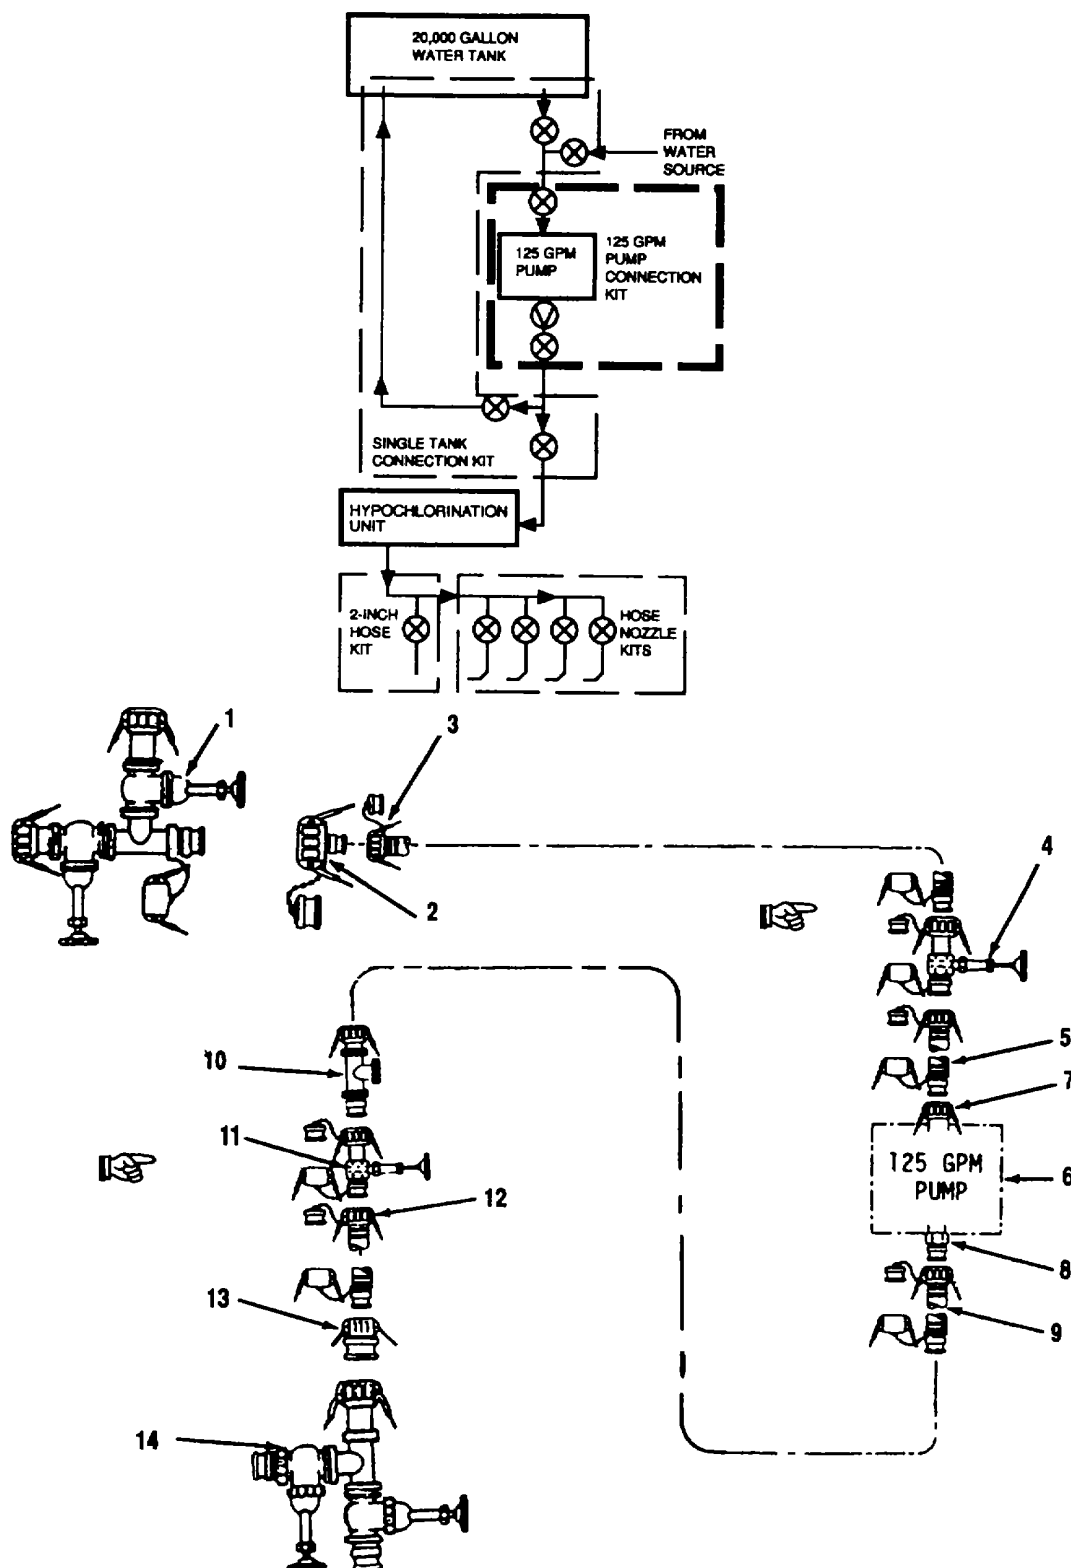

Figure 2-13. 125 GPM Pump Connection Kit Disassembly
- (4) Disconnect reducer (4-inch female x 2-inch male) (4) from tee (3).
- (5) Disconnect tee (3) from 4-inch x 20-foot discharge hose (2).
- (6) Disconnect 4-inch x 20-foot discharge hose (2) from 4-inch x 20-foot discharge hose (1).
- (7) Disconnect 4-inch x 20-foot discharge hose (1) from male (outlet) coupling on hypochlorination unit (8).
- (8) Drain and allow components to dry.
- (9) Install caps and plugs on component couplings (para. 2.7c).
- (10) Roll all discharge hoses and secure with tape.
d. Disassemble 125 GPM Pump Assembly Connection Kit. Refer to Figure 2-13.